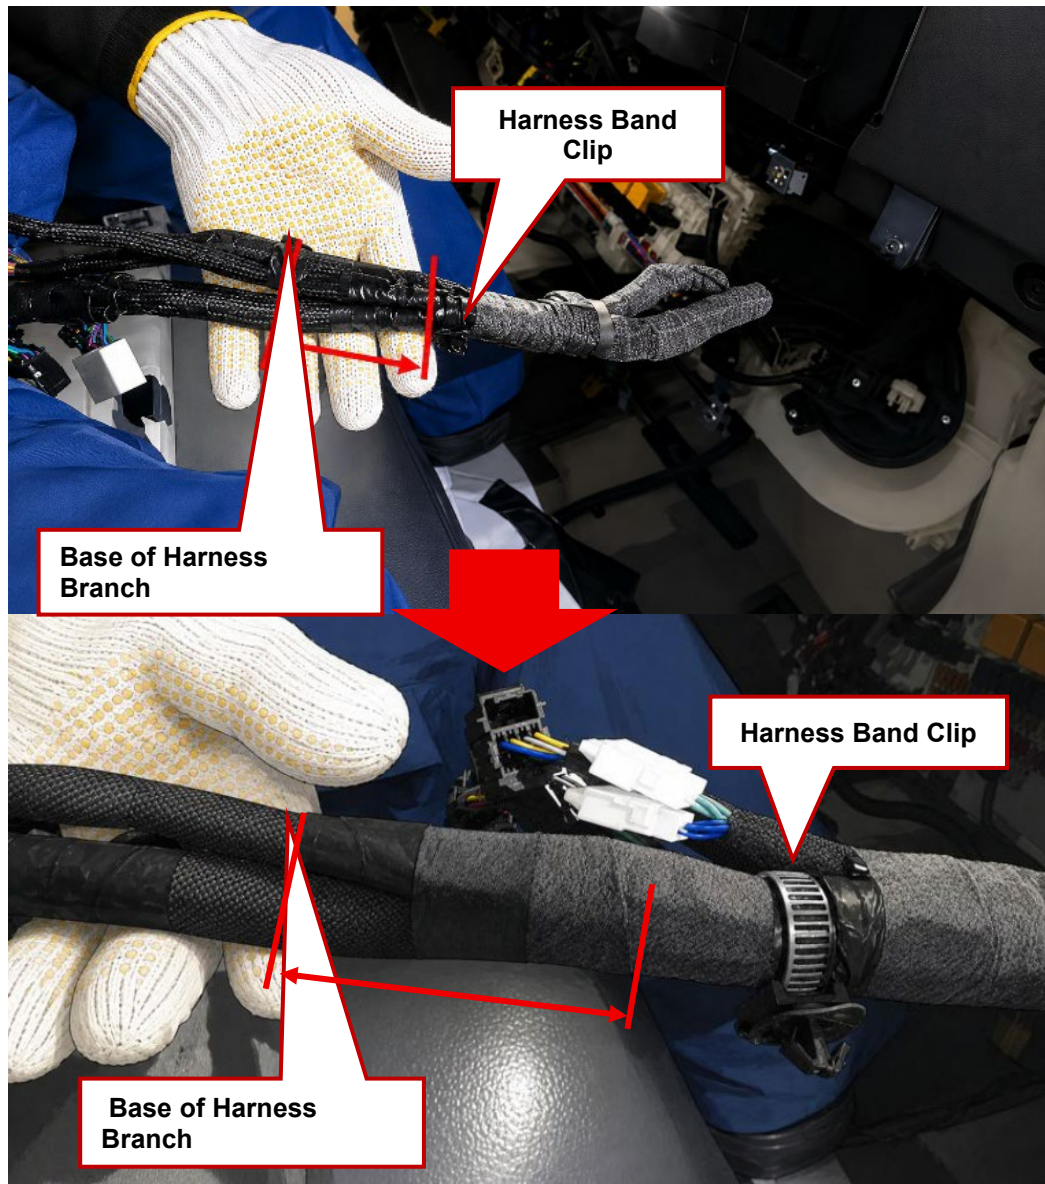

Figure 48
46. Location [C.]: Wrap the Tesa tape from the end of the harness band clip to the base of the harness branch junction. (See Figure 48.)